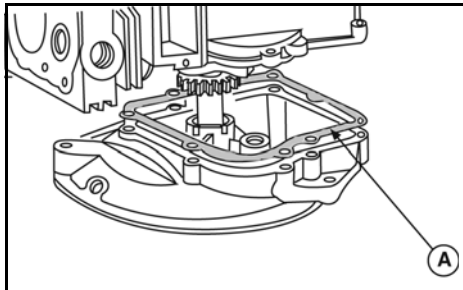

Figure 14
- Models 97700, 99700 Vertical Engines - use additional gaskets to get proper end play (A, Figure 14).